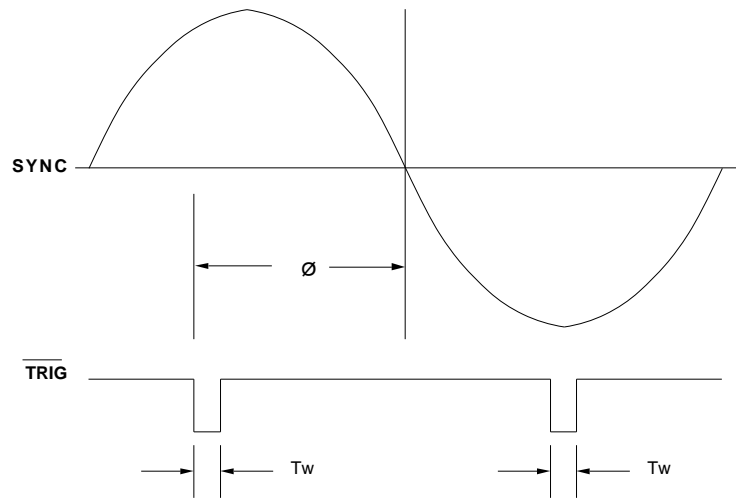
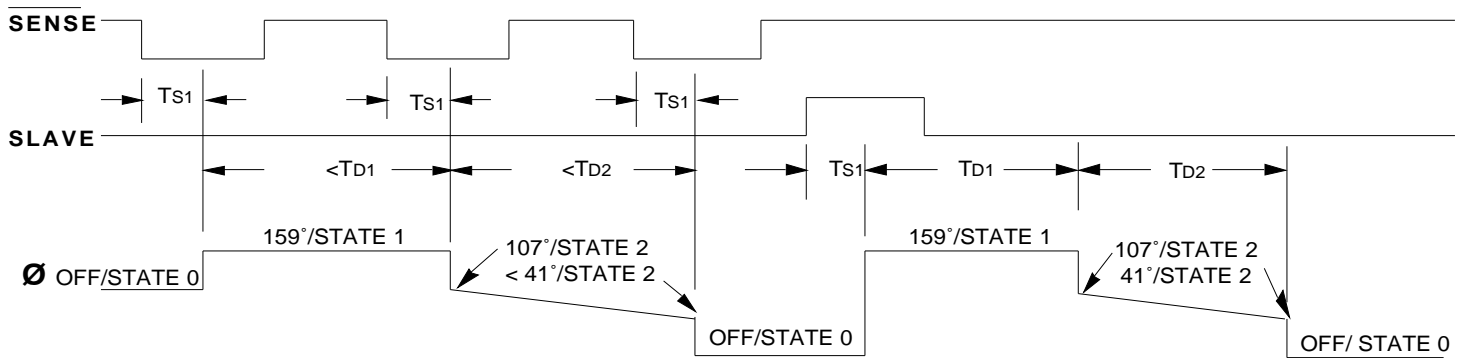

FIGURE 2. OUTPUT CONDUCTION ANGLE,  $\emptyset$
FIGURE 3. OUTPUT PHASE ANGLE  $\emptyset$  vs SENSE AND SLAVE
(See Figures 2 and 3)
During the STATE 2 Time-out, the TRIG phase angle  $\phi$  (See Figure 2) is ramped down from 107° to 41° in decrements of 1.4°. When  $\phi$  reaches 41°, the IC automatically steps to STATE 0, shutting the TRIG and lamp Off.
TRIG is a negative-going pulse occurring once every half cycle of the SYNC input. Pulse width is 33 $\mu$ s. Table 1 in the General Description shows values of the TRIG phase angle for the different states. (See Figure 2 and Figure 3.)
**TRANSIENT CHARACTERISTICS (See Fig. 2 and 3)**